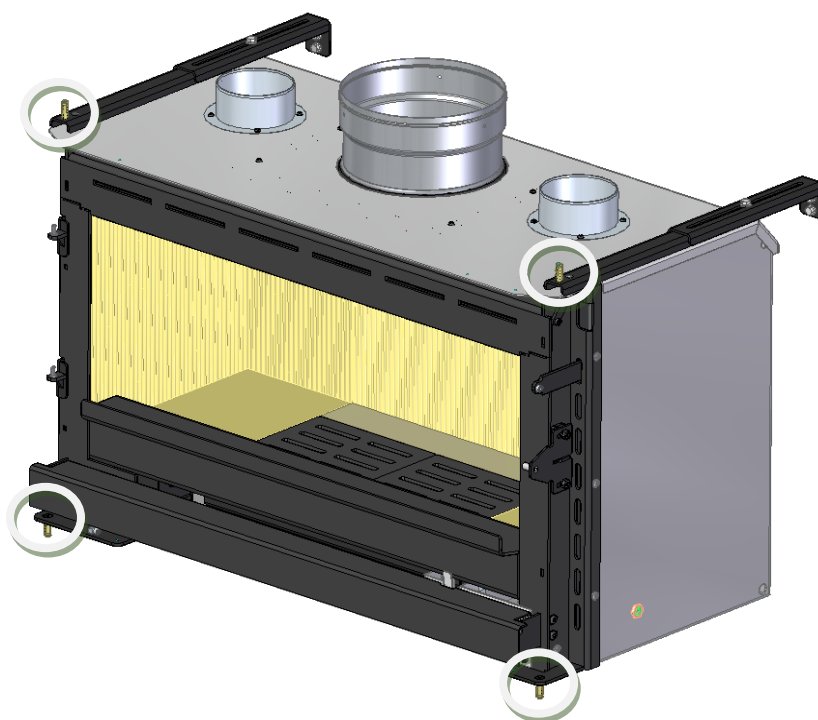

Figure 18 - Fixing the equipment to masonry
15. If you intend to place the unit into masonry, you should use the brass bushes and countersunk head screws that come with the unit fixing kit (PA1090G053). You should take the correct measurements for drilling the holes in the masonry and fix the unit in the following locations as shown in Figure 18.